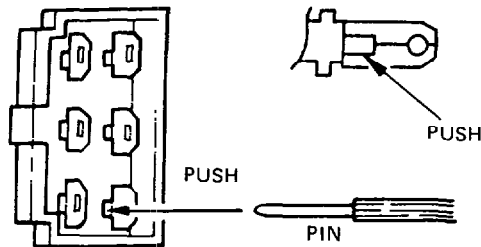

Fig. 10-13
<p>(2) Separate the stator and rear cover. Separate the connector and wire. Push the terminal locks in the connector with a pin having a needle-like sharp point, and remove the terminals. (See Fig. 10-13.)</p>	<p>It is not necessary to separate the stator and rear cover except when replacing the stator, rear cover, or diode stack.</p>